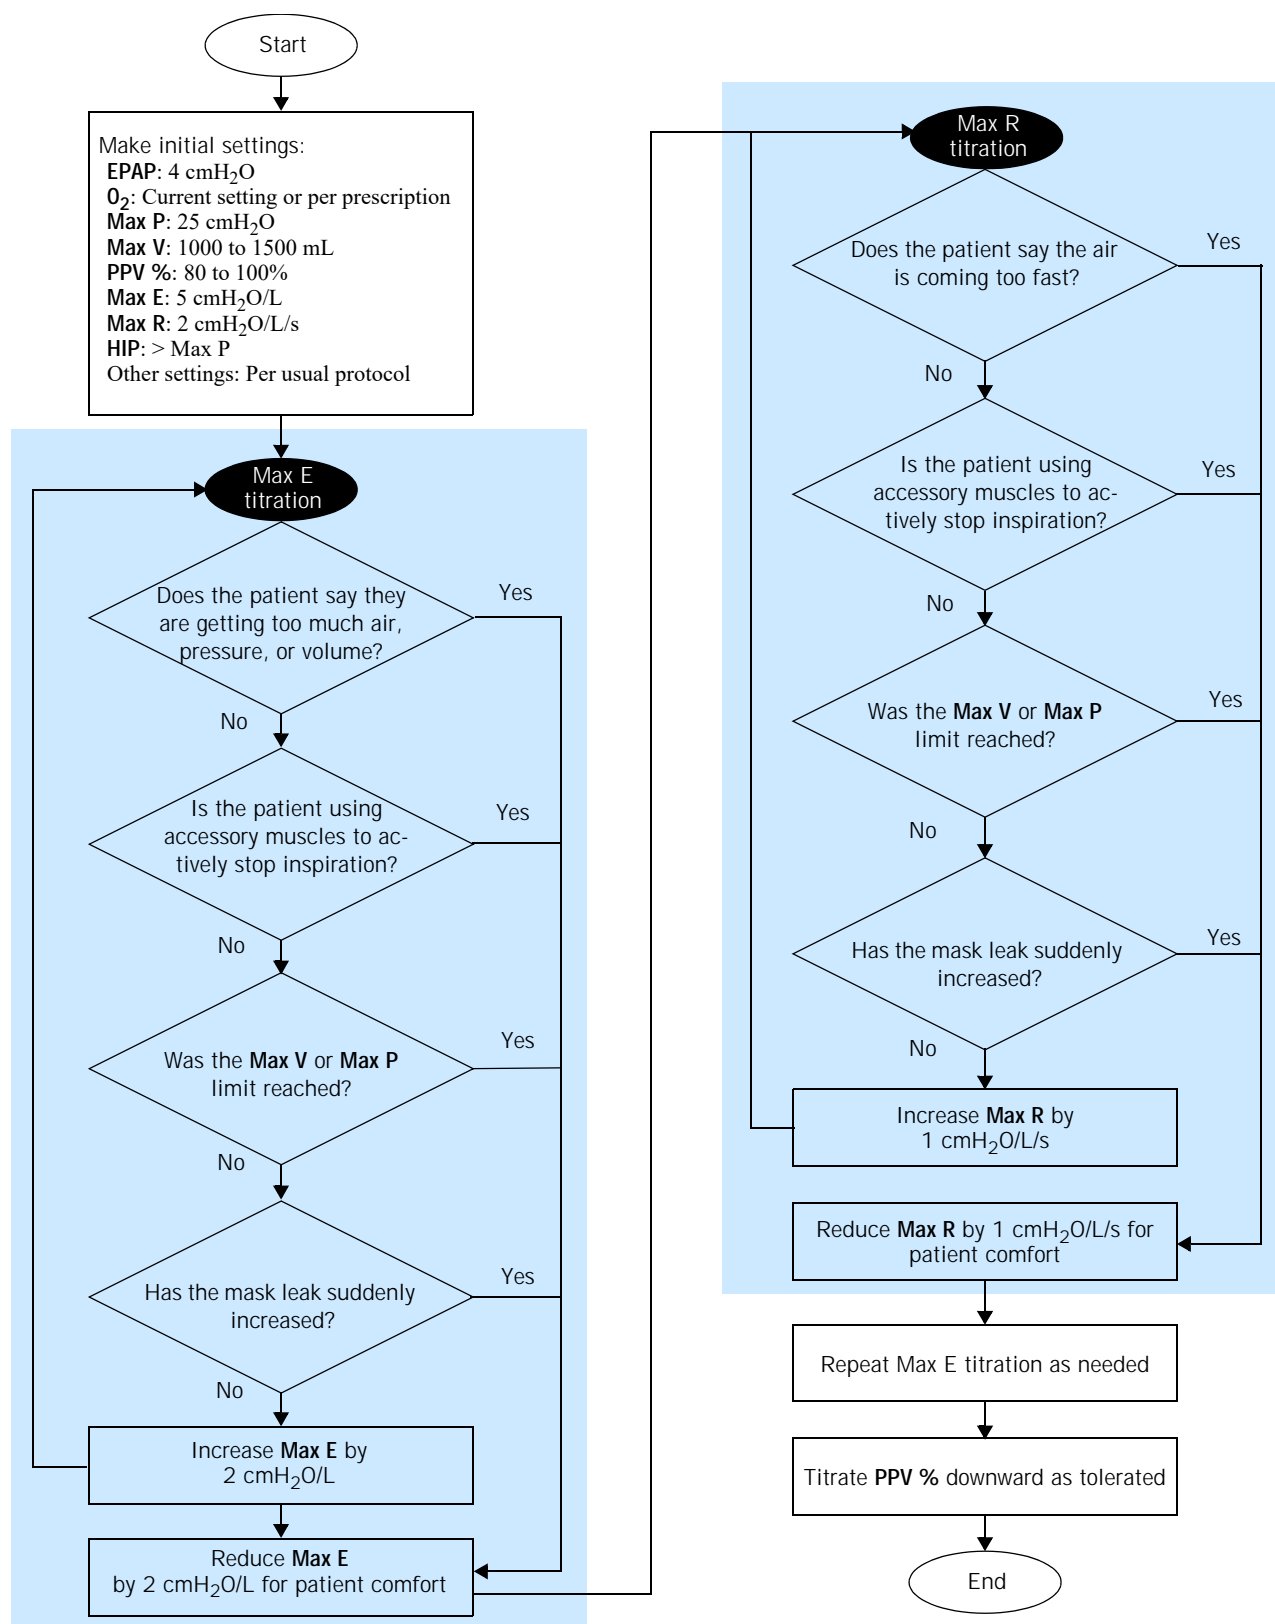

Figure 6-3: PPV initial setup
Follow these instructions to set up the ventilator in the PPV mode, referring to Figure 6-3. For principles of operation, see “PPV mode (optional)” on page 4-13.
**Suggested titration procedure** Follow this procedure to titrate settings to optimize patient comfort while avoiding overassisting. See also the flow chart in Figure 6-3.